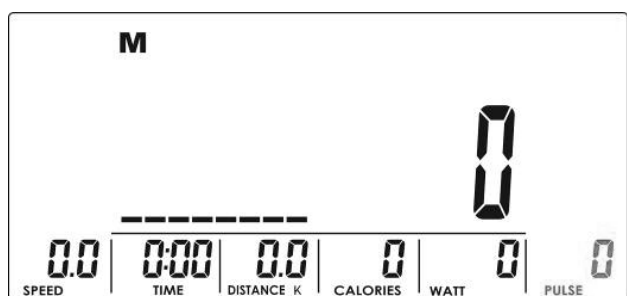
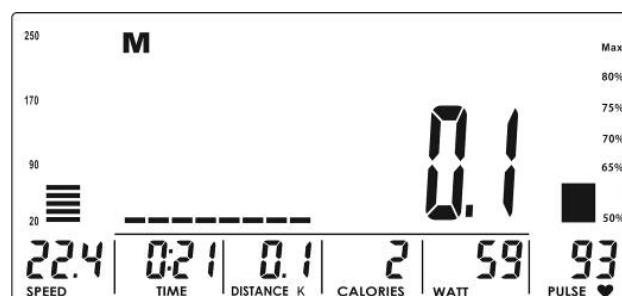
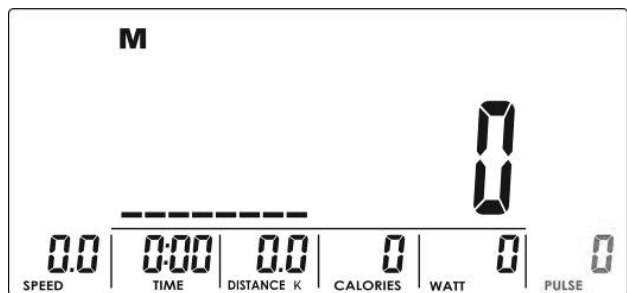

Fig. 23
Fig. 24
Fig. 25
4. The LCD screen displays the BMI (fig. 23), the fat percentage (FAT %, fig. 24), and the body fat symbol (BODY FAT, fig. 25).